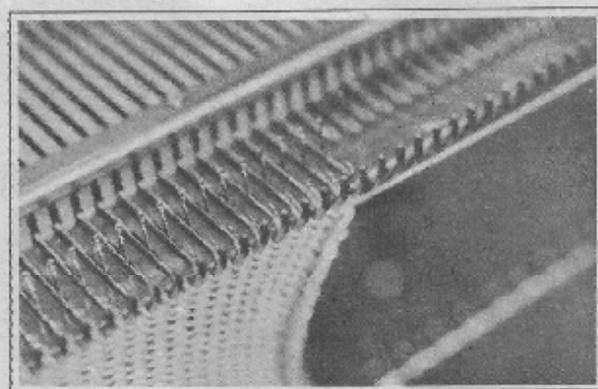

Fig. 2
4. Move the carriage across this needle sufficiently to clear it, then move the carriage back to the right side. The "E" positioned needles will have knitted the two stitches together leaving one, but the other needles will not have knitted. (Fig. 2)